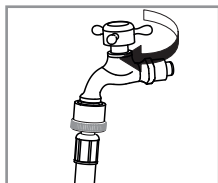

Fig. 19
- Turn off the water tap. ( Fig.19)